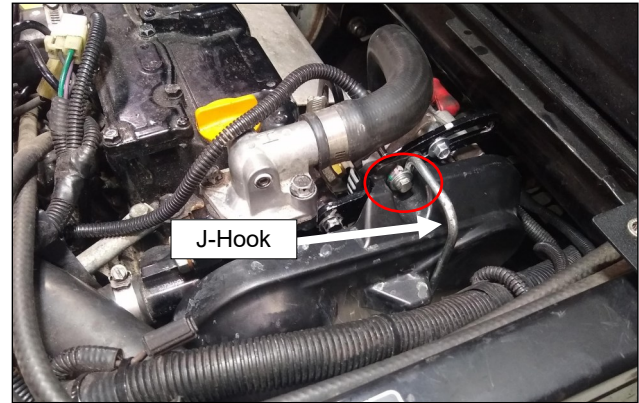

Fig. 1.21 J-Hook
- 1.21 Remove the (4) nuts and washers along with the J-hook from belt cover. Set J-hook aside for future use. Hardware may be discarded. See figures 1.21 & 1.22.